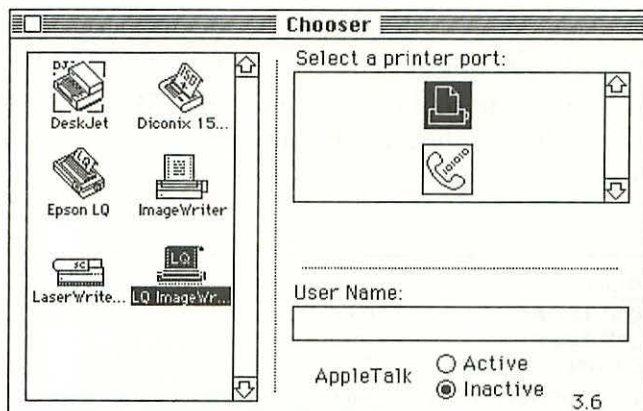

Figure 3-23 Use the Chooser DA to verify that the correct printer and port are currently selected.
2. Select the Chooser desk accessory (DA) from the Apple menu. As shown in Figure 3-23, verify that the correct printer (the color printer) and port are currently selected.